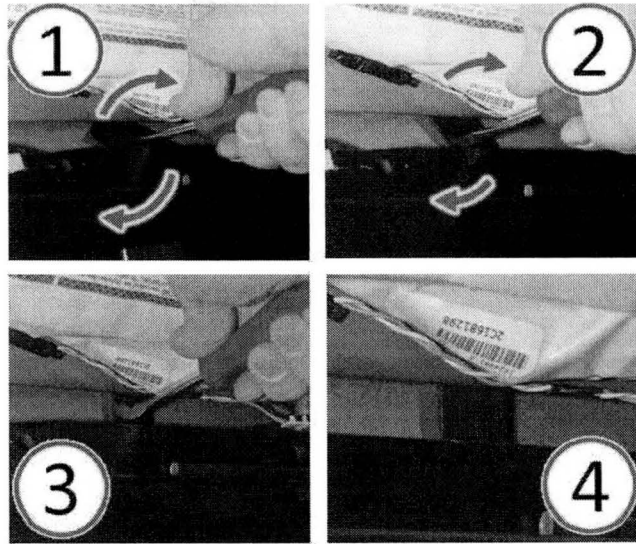

Fig. 7 Position Roof Spacer
- 10. While continuing to compress the roof spacer foam against the underside of the roof to prevent disturbing or wiping off the RTV adhesive, the roof spacer needs to be rotated 90 degrees to span between the bodyside aperture flange and the sunroof reinforcement ring as shown in roof spacer positioning steps (1, 2, 3) of (Fig. 7).
- 11. When the roof spacer is properly positioned (4), it will be resting on top of the bodyside aperture flange and the sunroof reinforcement ring and will be located directly under the roof low spot (Fig. 7). The roof spacer foam will press against the underside of the roof sheet metal eliminating the low spot.